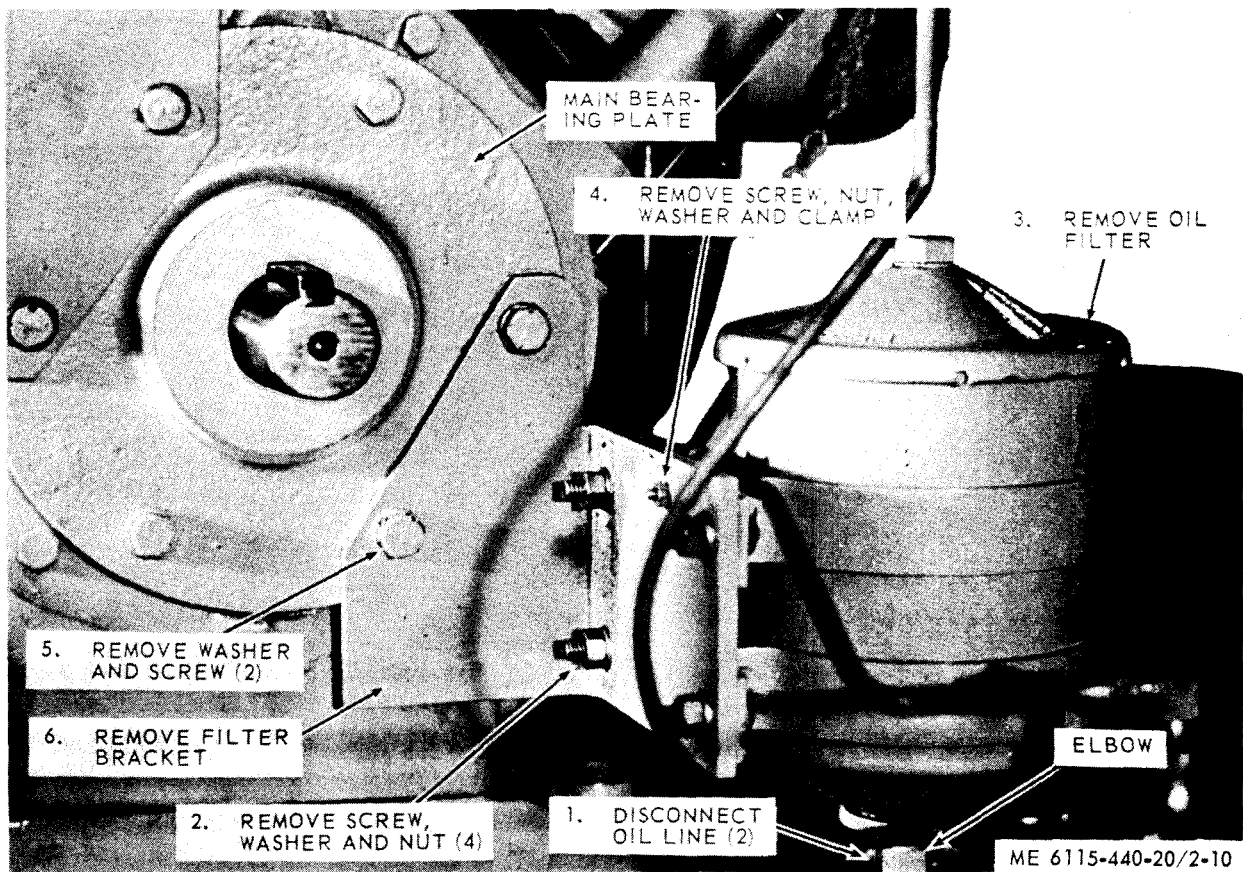

Figure 2-10. Oil filter and bracket, removal and installation.
- (1) Remove the engine belt sheave (para 2-42).
- (2) Refer to figure 2-10 and remove oil filter and bracket.
- (1) Refer to figure 2-10 and install the oil filter and bracket.
- (2) Install engine belt sheave (para 2-42).